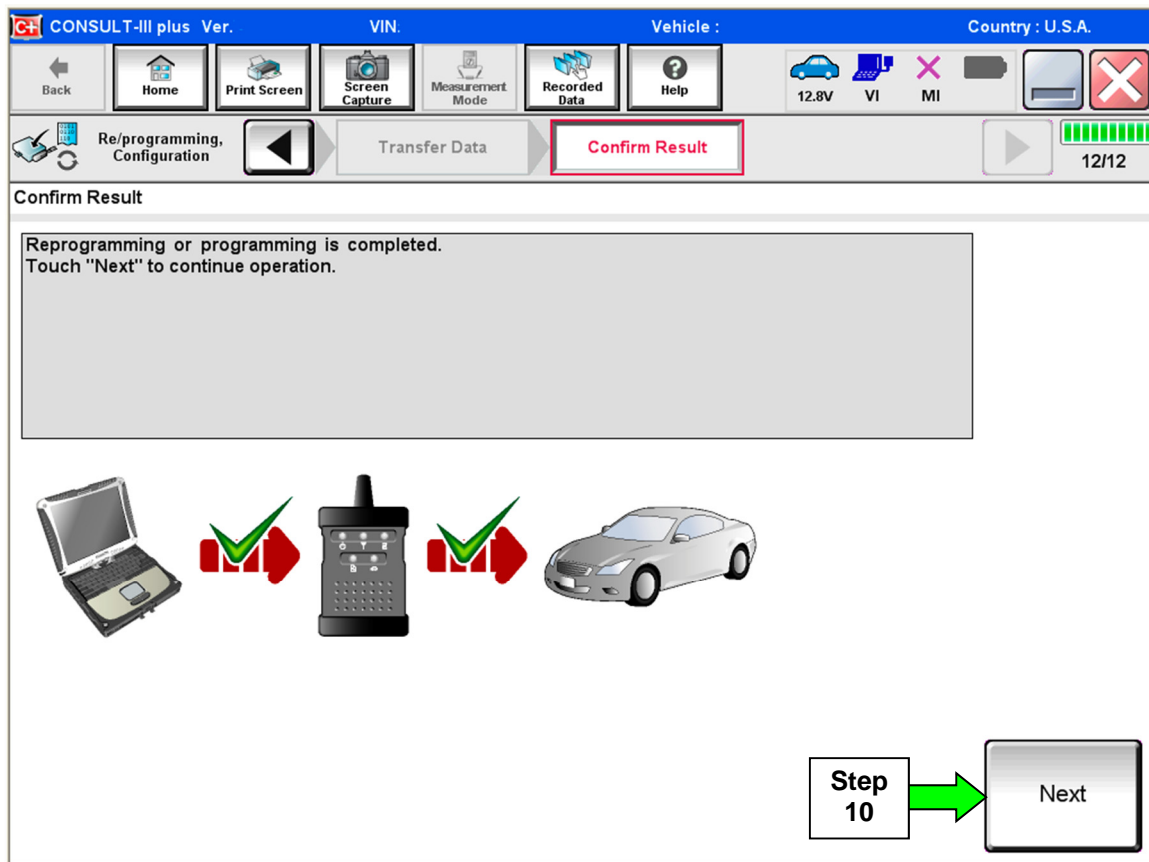

Figure 5
8. When the screen in Figure 5 displays, reprogramming is complete.
**NOTE:** If the screen in Figure 5 does not display (reprogramming does not complete), refer to the information on page 8.